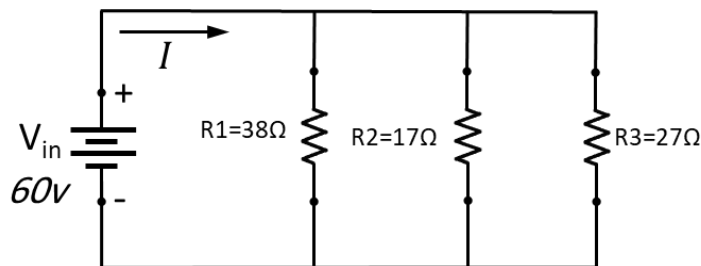

Figure 7
- In Figure 7, the battery voltage is $V = 60$ volts, and the values of the resistances, in ohms, are 38, 17, and 27, as shown. Find: